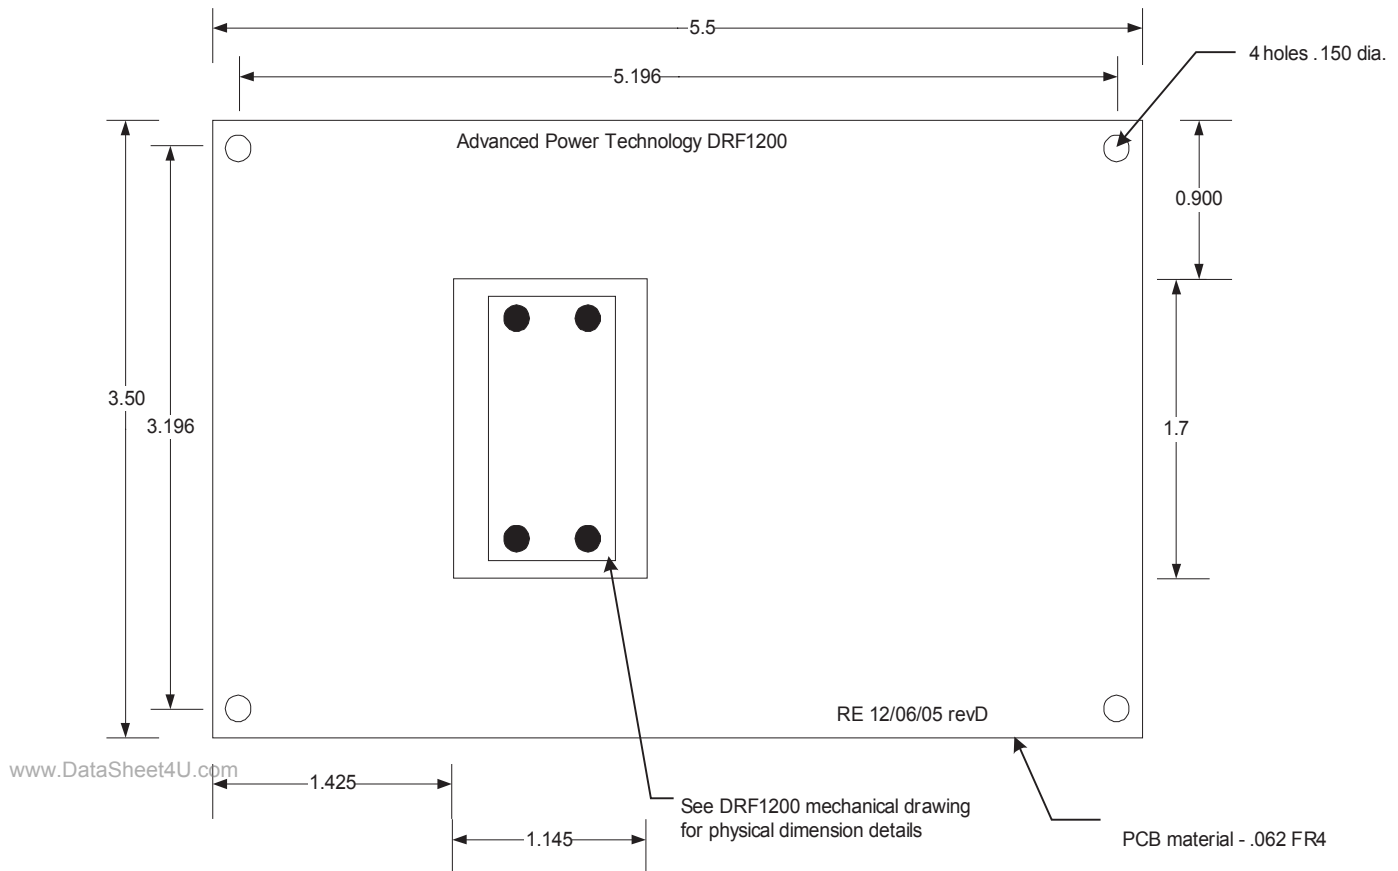

Figure 10, DRF1200 Eval Board Mechanical
1. The leads should be prepared with an "s" bend, as shown in Figure 10 prior to mounting on the heat sink